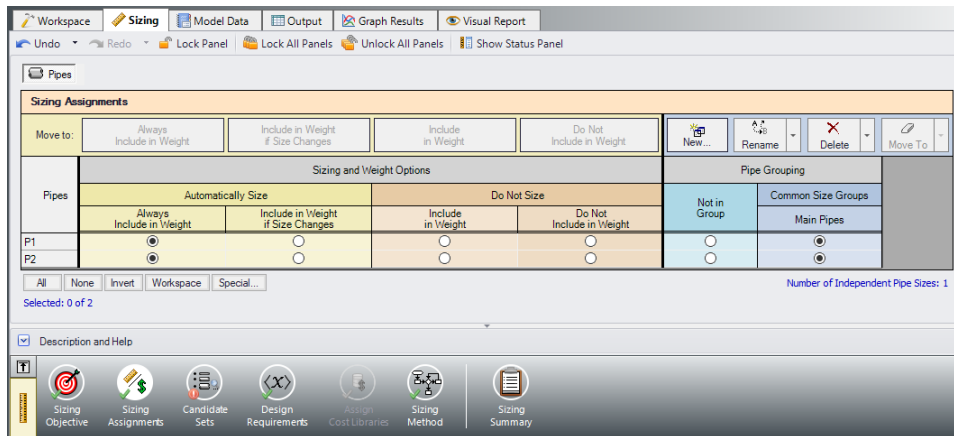

Figure 2: Pipes P1 and P2 settings in the Sizing Assignments window
2. A new section will now appear with the Main Pipes group listed under Common Size Groups. Add both pipes to this group by clicking the corresponding radio buttons (Figure 2).